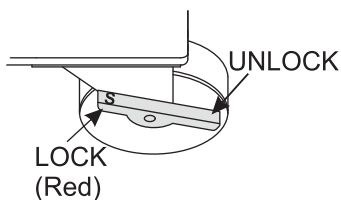

Figure 7. Locking Caster Wheels
2. Lock the three caster wheels (two wheels have no locks) by stepping on the red end (S) of the caster lever (Figure 7).